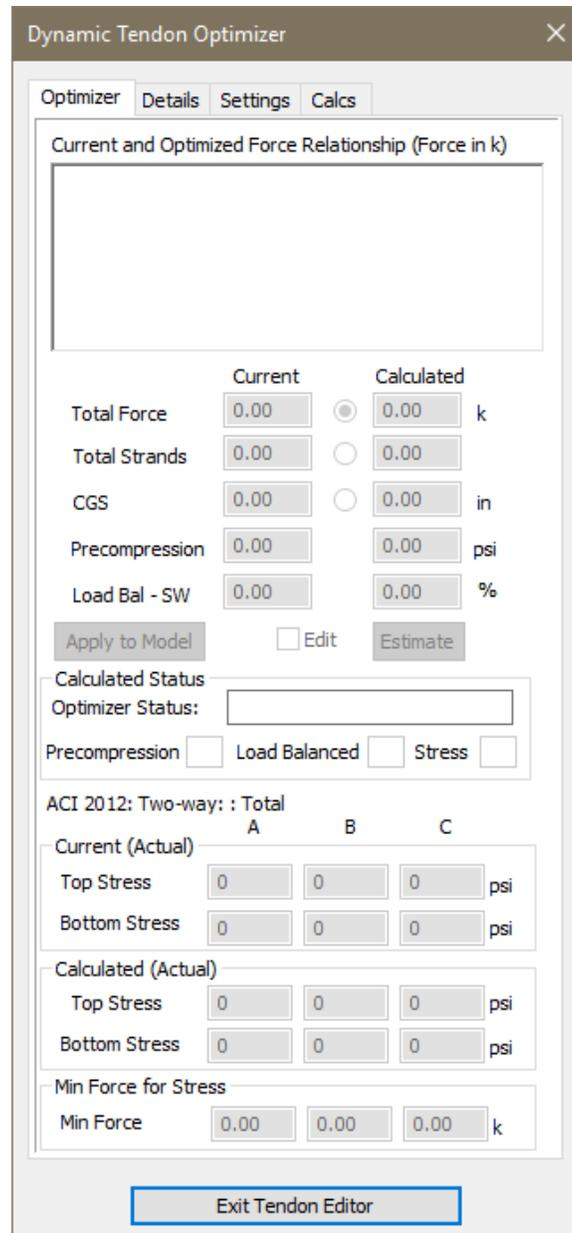

Figure 8-57
- Go to *Tendon* → *Design* and click on the *Tendon Optimizer*  icon to open the *Dynamic Tendon Optimizer* window shown in **FIGURE 8-57**.